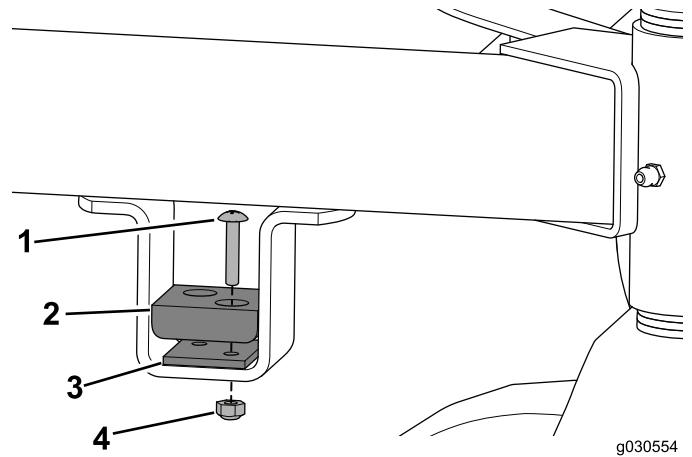

Figure 25
3. Use the cushion spacer if the clevis pin does not contact the cushion at the height of cut (Figure 25).